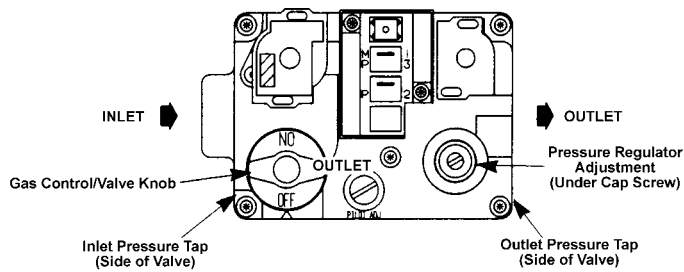

Figure 25
1. Connect a water manometer or adequate gauge to the "inlet pressure tap" of the gas valve (Figures 25, 26 or 27).
A tapped opening is provided in the gas valve to facilitate measurement of the manifold pressure. ("Outlet Pressure Tap" in Figures 25, 26 or 27) A "U-Tube" manometer having a scale range from 0 to 12 inches of water should be used for this measurement. The manifold pressure must be measured with the burners operating.
6. *White Rodgers Model 36E36 or 36E37 or Honeywell Model VR-8205 (Figures 25 and 26):* Turn the gas control knob clockwise  to the OFF position.